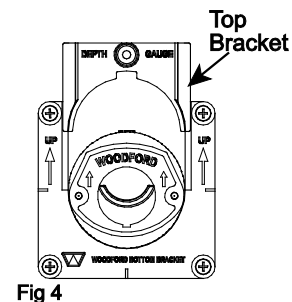

Fig 4
6. Slide the Top Bracket over the Mounting Sleeve and into the Bottom Bracket. Fig 4